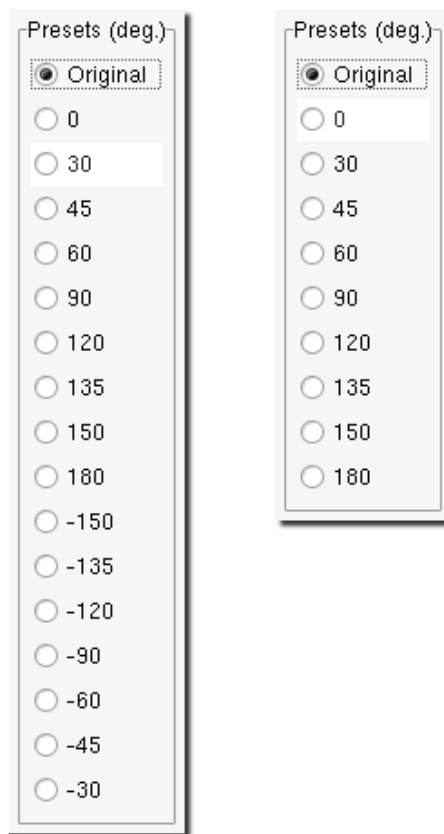

Figure 2.28: Angle Presets window, left image - torsion presets, right image - angle presets
- **Show Angle Presets** toggles the **Angle Presets** window, Figure 2.28. When enabled, the presets window will automatically appear whenever a rotation bond is selected or a second bond is selected with the bond angle tool. Activating any of the preset angles listed will set the torsion about the rotation bond or the bond angle to the selected preset.